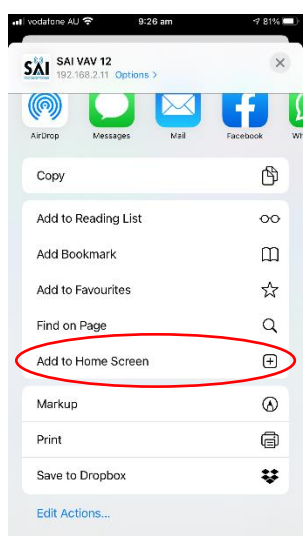

Figure 4 – Type IP address into browser & add to home screen or book mark
4. You may wish to bookmark the page or add a link to your home screen on your device, so that you can press the link instead of having to refer back to the IP address each time you wish to connect. (*Figure 4*)